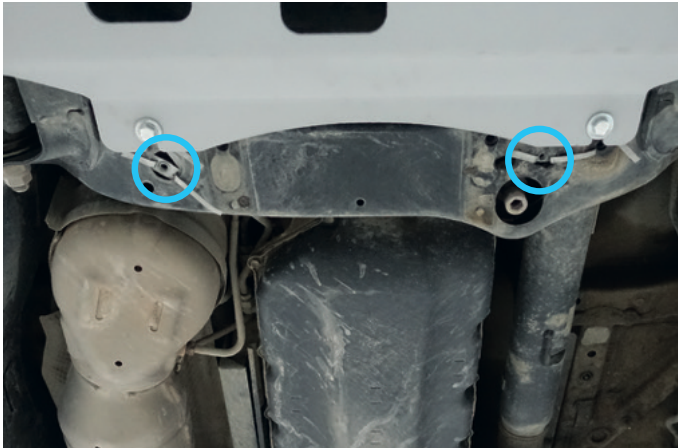

Fig. 7
7. Install insert nut M8x65 (item B) as shown in fig.7.